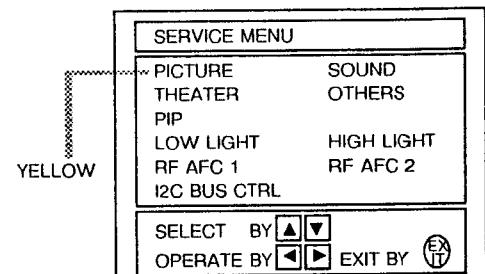

Fig. 1 SERVICE MENU
- 1) Press the DISPLAY KEY and VIDEO STATUS KEY of the REMOTE CONTROL UNIT at the same time to display the SERVICE MENU screen shown in Fig.1.
(2) SERVICE MENU screen selection